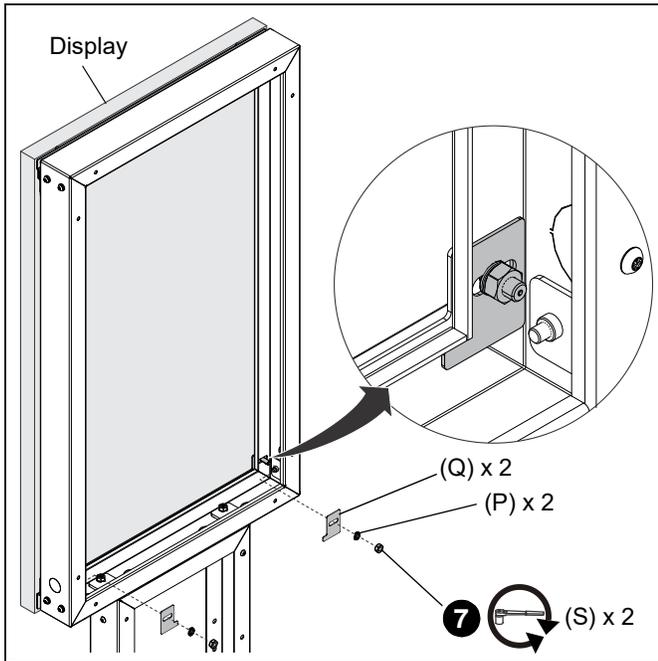

Figure 16
- Secure the display to the frame using two small washer plates (Q), two 10mm lock washers (P), and two 10mm hex nuts (S). (See Figure 16)